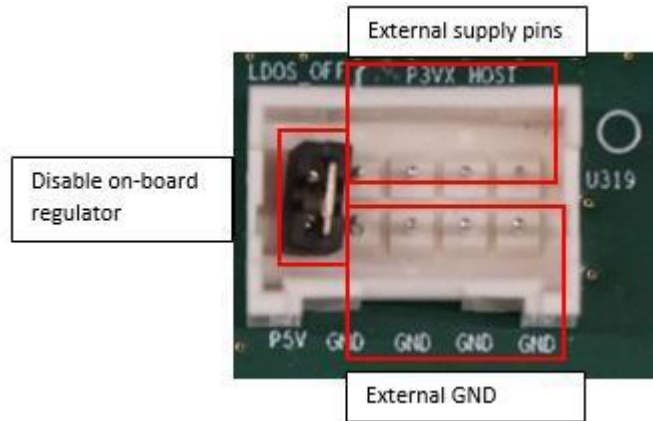

Figure 1: External Power Source
- Apply external 3.3 V at P3VX_HOST pins of U319 connector, as shown in the Figure 1.